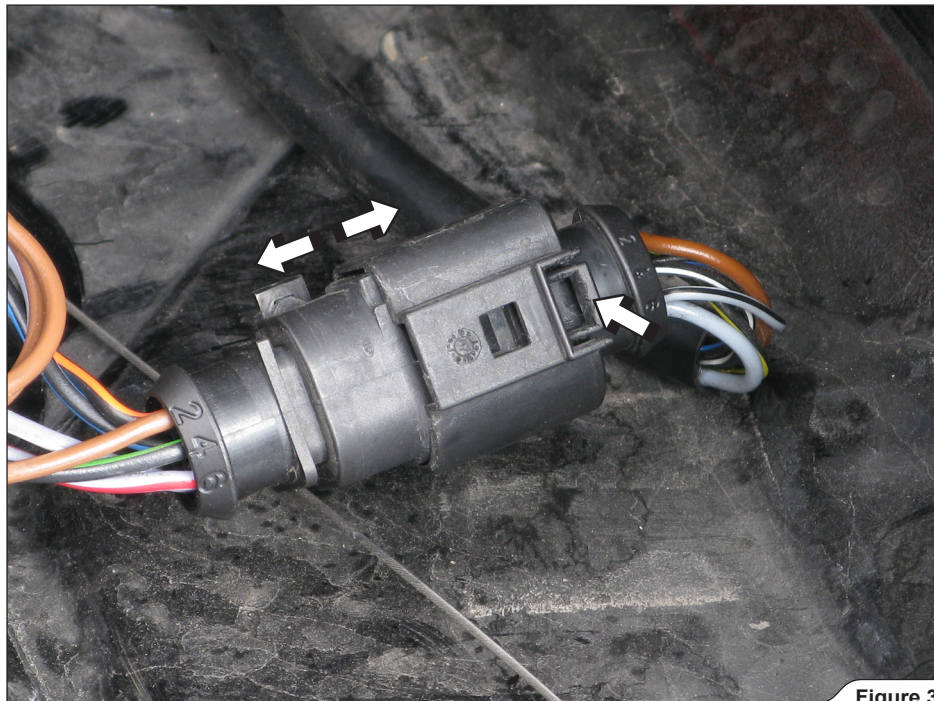

Figure 3
3. **For Slip-On, Sports Cup, Evolution and Evolution-Race:** undo the lights connectors and remove the tail lights (**Figure 3**).